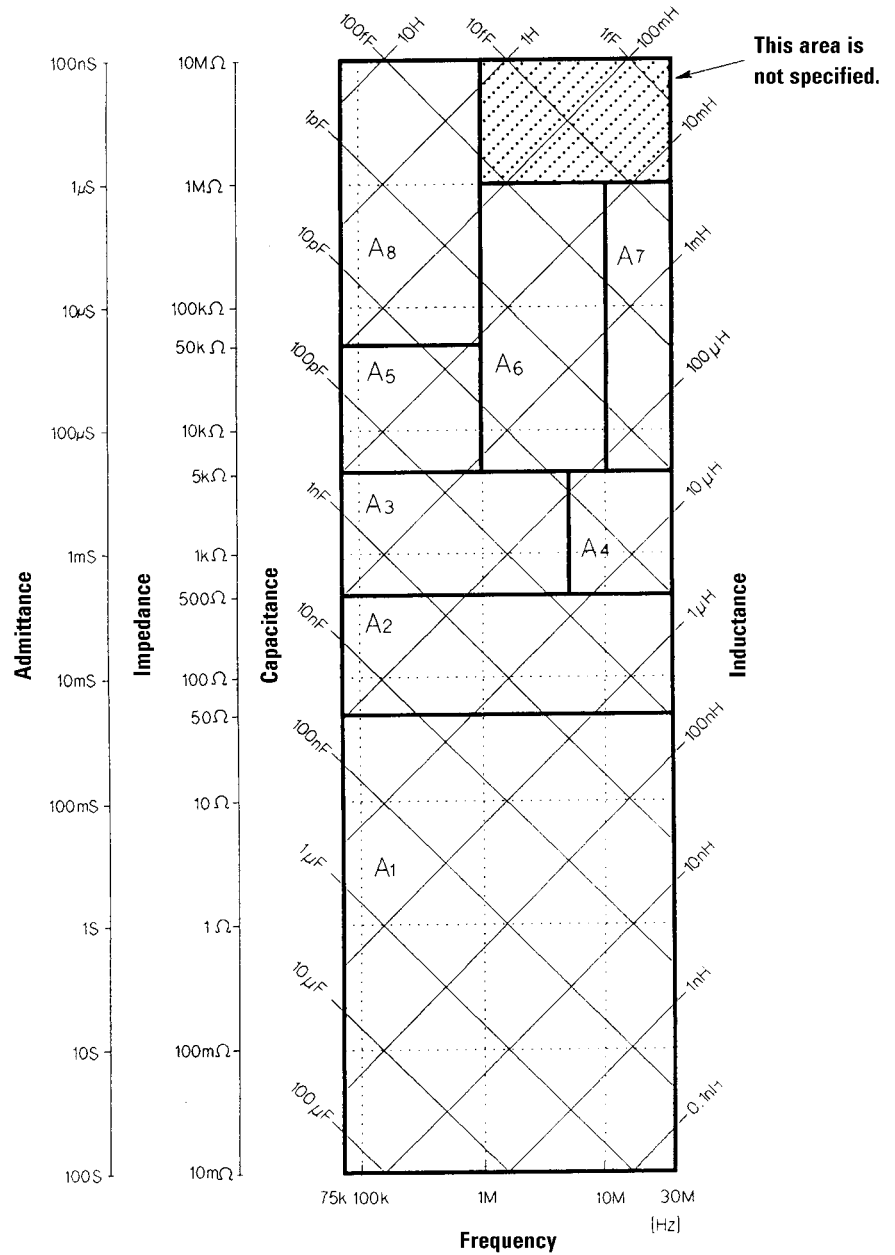

Figure 2. Accuracy equation (A_n) frequency and impedance range (4285A)
1. A_n is the accuracy equation as specified by Figure 2 and Table 3. A_n ranges from A_1 to A_8 .
- Step 1: Use Figure 2 to determine A_n and Z_m .
Note: For additional accuracy information, refer to the impedance accuracy equation on page 18. The symbol in parenthesis (A_n) represents accuracy equations in Tables 3 and 4. (Measurements outside Figure 2 are permitted but accuracies are not specified.)